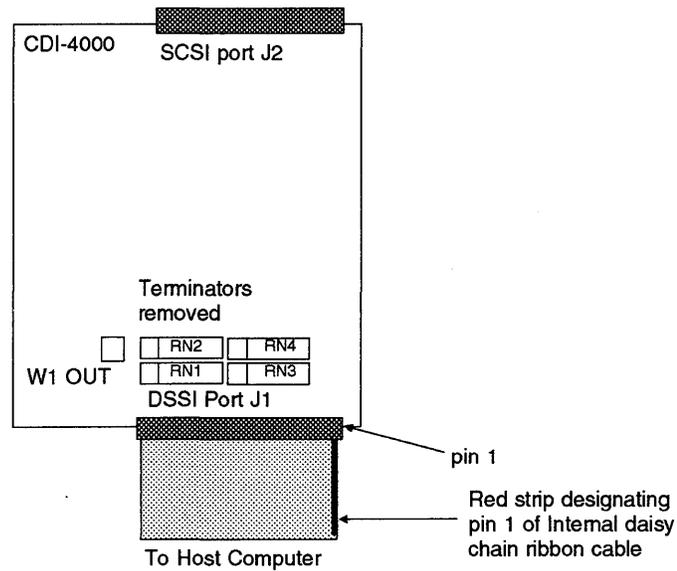

Figure 3-3: DSSI port termination
- 5 Terminate each *physical* end of the DSSI bus connected at J1. If CDI-4000 is not at one end of the DSSI bus, *remove terminators* at J1. Follow the instructions below (see Figure 3-3):